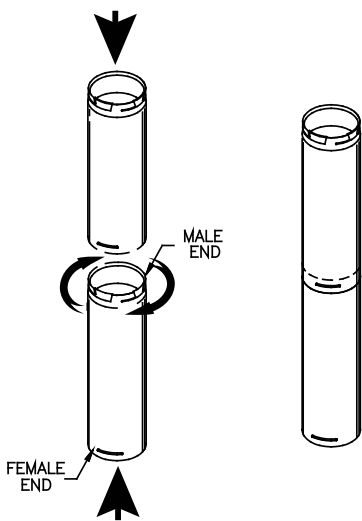

Figure 4
D. Connect Pipe Sections. Attach PelletVent Pro Pipe Sections by pushing male and female ends of pipe together and twisting until pipe is in locked position (**Figure 4**). PelletVent